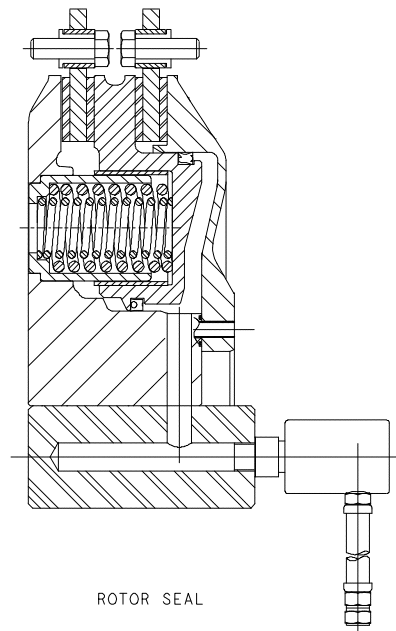

Figure 2
- 2.2.2 Refer to Figure 2 for interference mount fits.